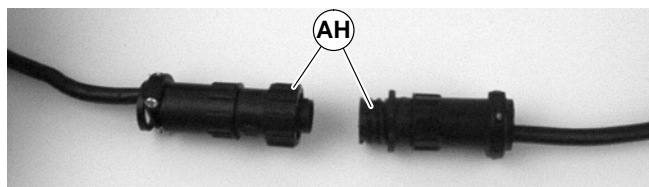

Figure 41
3. For DC variable speed motor, unplug motor cord at disconnect (AH of Figure 41).